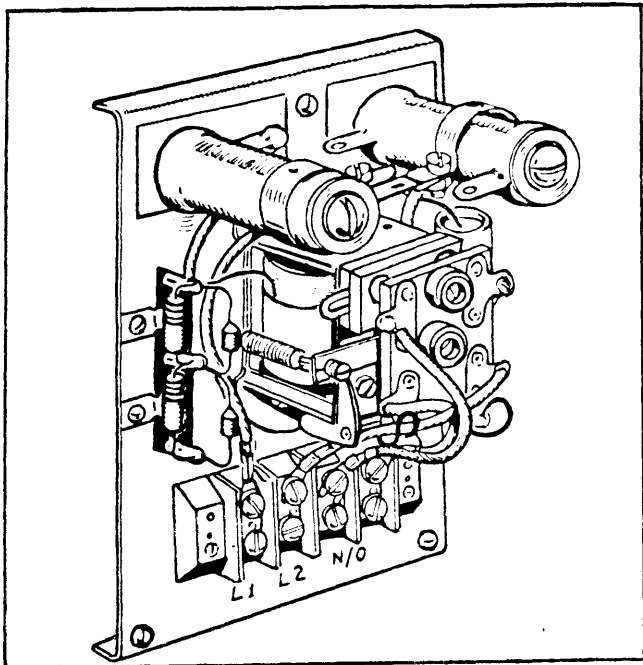

FIG. 16
**NOTE:** Some controls have a non-adjustable voltage sensitive relay (no cover or adjustment controls, Fig. 16). *Do not attempt to adjust this relay. If the relay becomes inoperative, return it to the dealer or an ONAN service center.*
2. Install a temporary jumper wire from the relays N/O to C terminals (see Fig. 16).